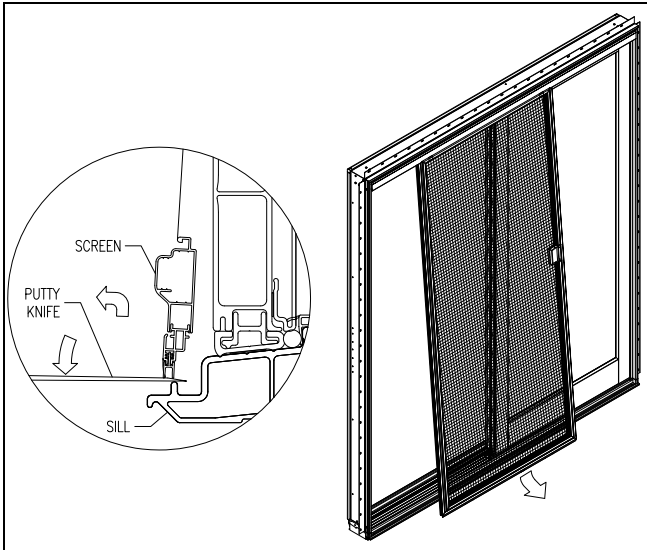

Figure 6
1. To remove the screen panel, start at the bottom corner and pry the screen panel guide up with a putty knife. Pull the guide off the screen sill track and work your way to the other end. See Figure 6.